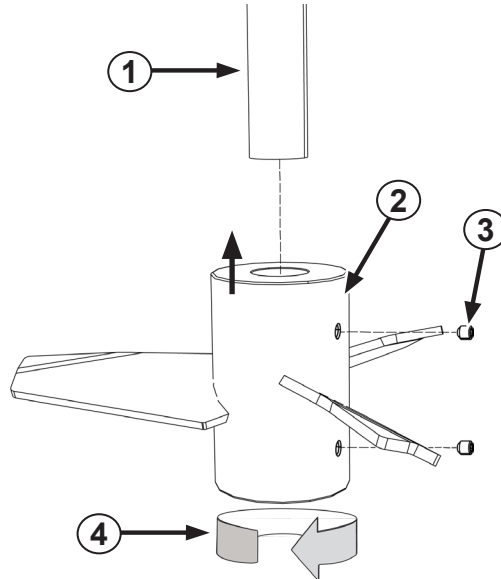

Figure 11. High-Efficiency Impeller
It is important to install the High-Efficiency Impeller (HEI) blades in a specific orientation, see rotation (4) in "Figure 11. High-Efficiency Impeller" below.